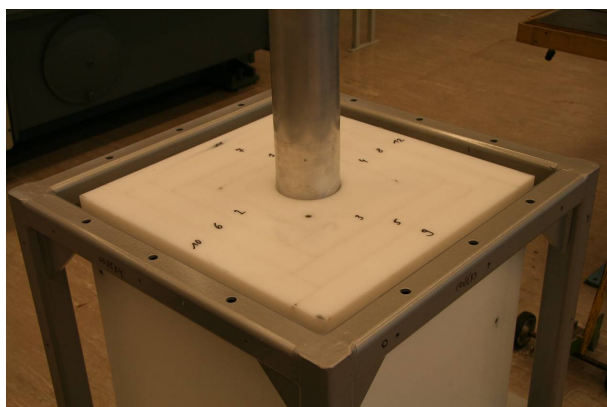

Figure 16: HDPE blocks 9 to 12 added.
2. Add blocks 9, 10, 11 and 12 and fix using screws (Figure 16).